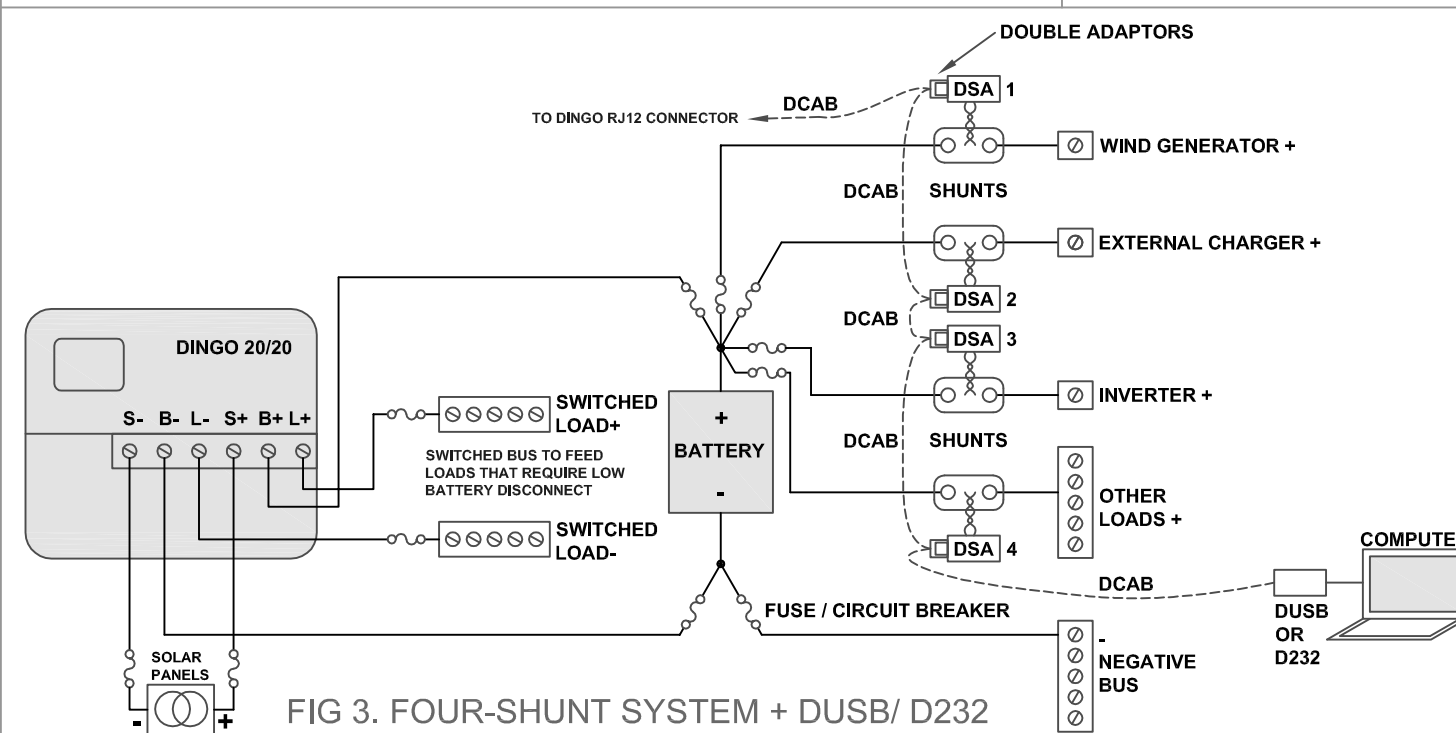

FIG 3. FOUR-SHUNT SYSTEM + DUSB/ D232
8. IN FIG 3, DSA1 READS WIND GENERATOR CHARGE CURRENT, DSA2 READS EXTERNAL CHARGER CURRENT, DSA3 READS INVERTER LOAD CURRENT AND DSA4 READS OTHER LOAD CURRENTS.
10. DOUBLE ADAPTORS (DA) ARE 6 PIN 2 FEMALE 1 MALE RJ12 CONNECTORS.